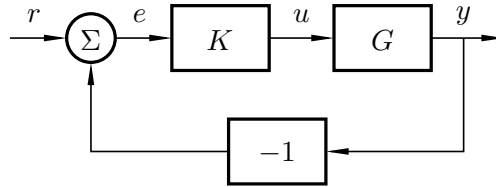

Figure 6.2 Block diagram of process G in negative feedback with controller K
6.5 Consider the block diagram in Figure 6.2. Consider the process